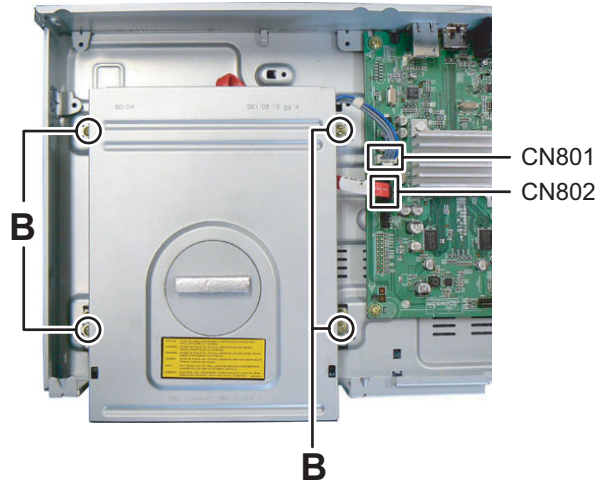

Fig.5
3.2 Removing the Blu-ray drive unit (See Fig.5)